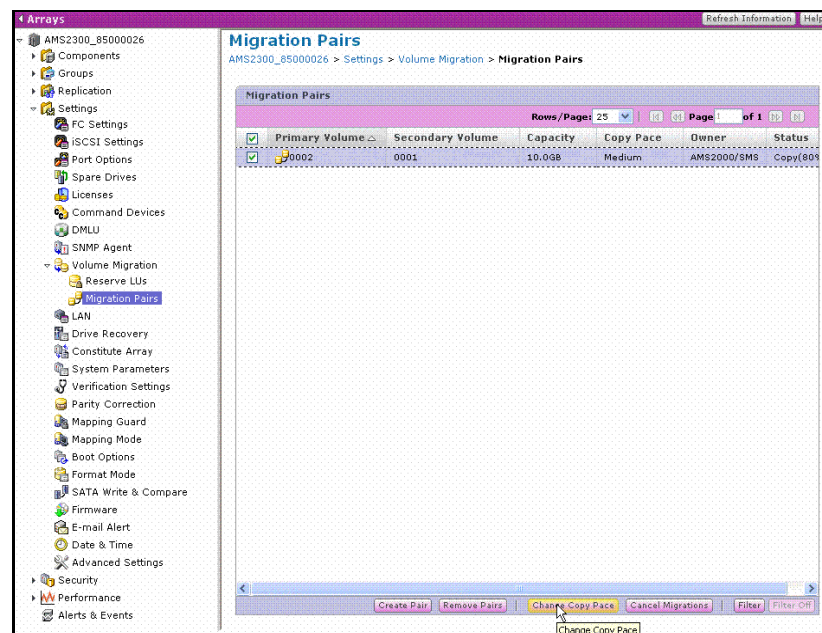

Figure 11-18: Change Copy Pace Dialog Box
6. Select the pair whose copy pace you are modifying, and click **Change Pace**. The Change Copy Pace dialog box appears, as shown in Figure 11-18.